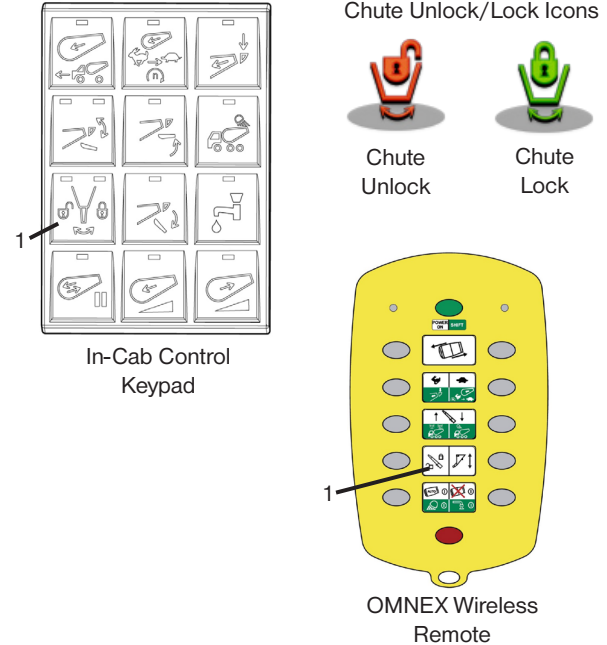

Figure 19
1. Press the CHUTE LOCK button on the in-cab control keypad (Figure 19) or the OMNEX wireless remote. The button indicator will illuminate red for CHUTE UNLOCKED and green for CHUTE LOCKED. Additionally, the drum control screen will show either the CHUTE UNLOCKED icon or the CHUTE LOCKED icon.